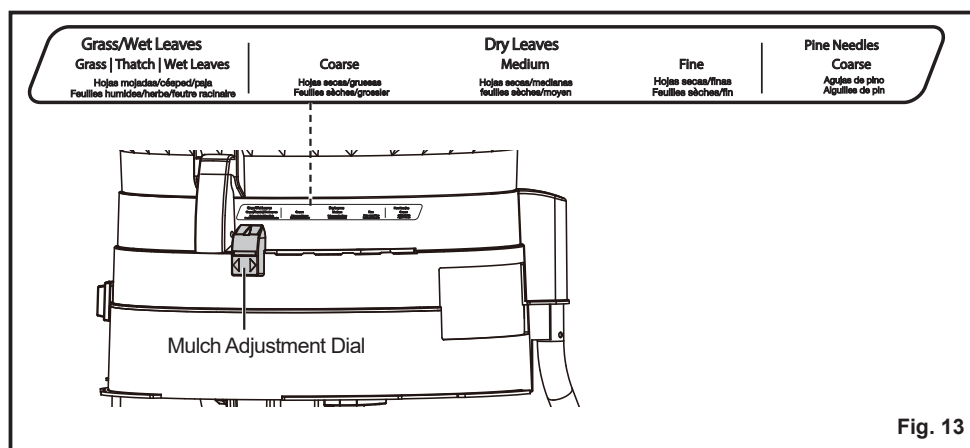

Fig. 13
- Use the special settings for pine needles, grass clippings, and thatch as needed. For best results, material should be shredded when dry (Fig. 13).